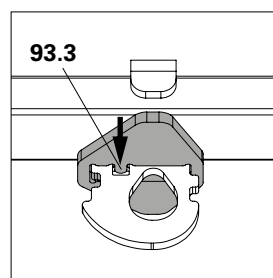
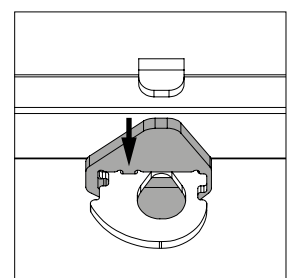

Fig. A11.06e
Fig. A11.06f
3. Insert the locking finger (93.3) into the hole. (Fig. A11.06e + Fig. A11.06f)